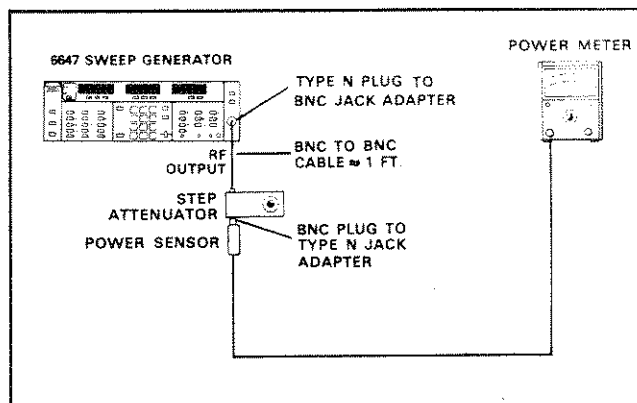

Figure 4-2. Test Setup for Sweep Generator/Step Attenuator Output Power Calibration
4. Connect equipment as shown in Figure 4-2 below.